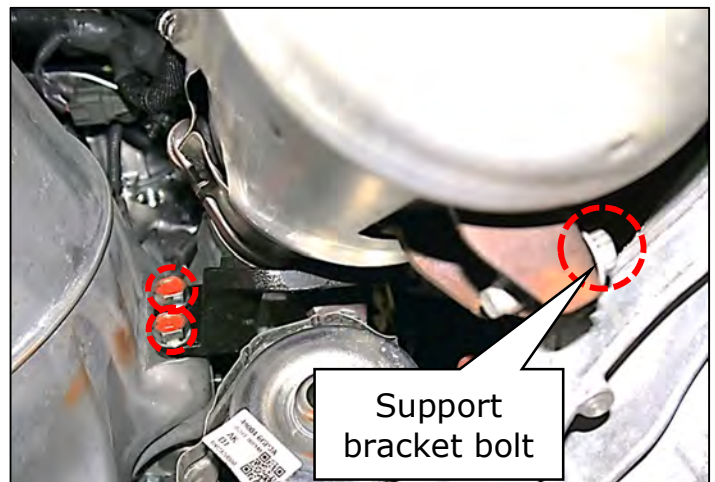

Figure 77
78. Torque all (8) of the transmission side mounting bolts to 75 N•m(7.7 kg-m, **55 ft-lbs**).
79. Torque the RH catalytic converter support bracket bolt to 47.8 N•m(4.9 kg-m, **35 ft-lbs**). (Figure 77)